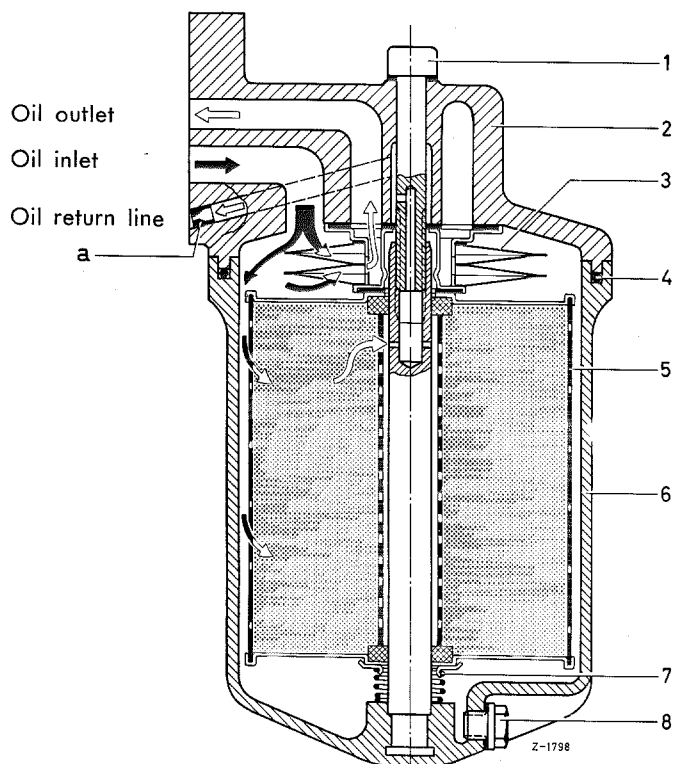

Figure 18-9/10
For cleaning of oil filter do not remove oil filter housing, upper part (2) from the engine (see Figure 18-9/10 and page 38).